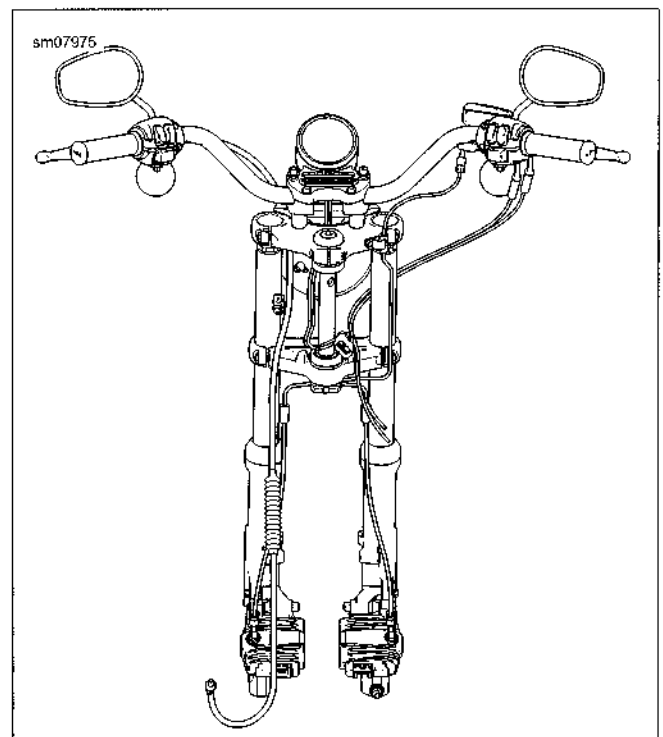

Figure 2-78. Brake Line Routing: XL 883R
1. See Figure 2-78. Fit the clamp to upper grommet.